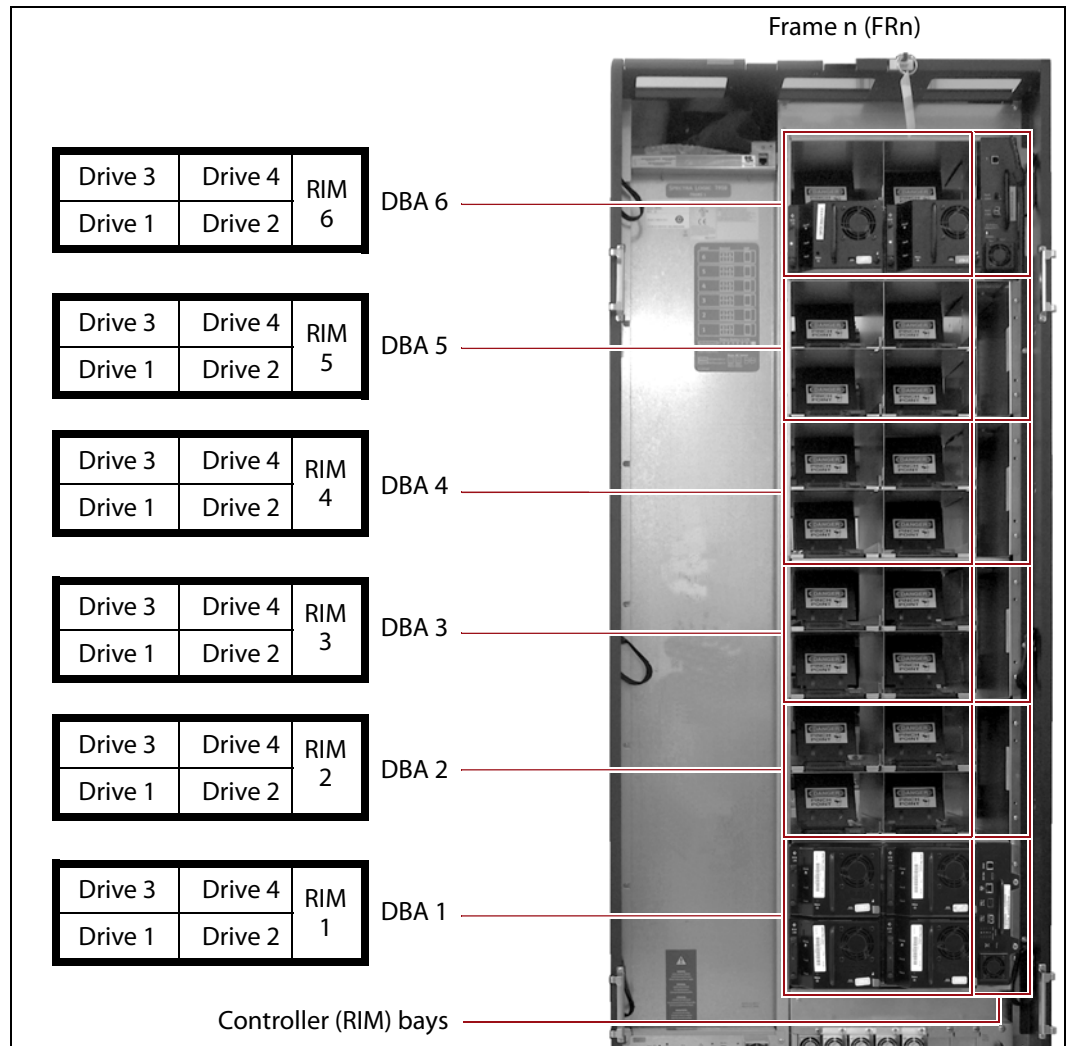

Figure 29 The relationship between the DBA, the component locations, and the identifiers in the BlueScale and XML interfaces (main frame with RIMs shown).
Figure 29 shows the relationship between the DBAs and the locations of the drives and controllers in the main frame.
- **DBAx** is the number of the DBA where the RIM or F-QIP is installed (see Figure 29 on page 65). The main frame and each drive expansion frame accommodates up to six DBAs.
The component identifier for each drive is based on its location relative to the frame and the DBA where it is installed, as viewed from the back of the library (see Figure 29 on page 65). The component identifier for a drive is shown as **FRx/DBAx/fTYPE-DRVx**, where: